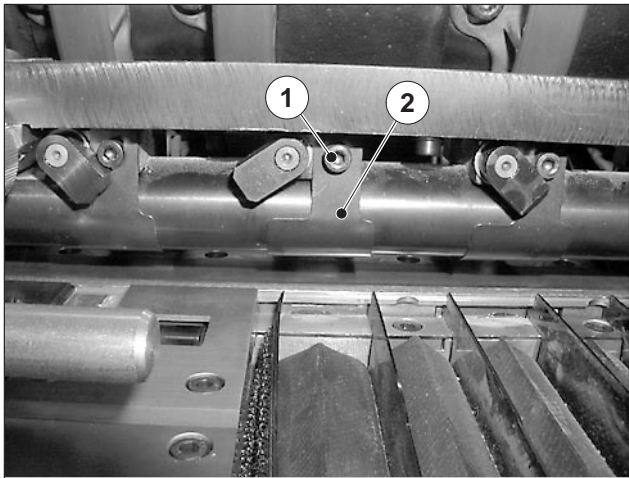

Fig. 71 Cleaning the sheet guide plate
1. Turn the screw (Fig. 71/1) back by one turn.
2. Pull the sheet guide plate (Fig. 71/2) from D.S. out of the retainer.
5. Tighten the screw (Fig. 71/1).